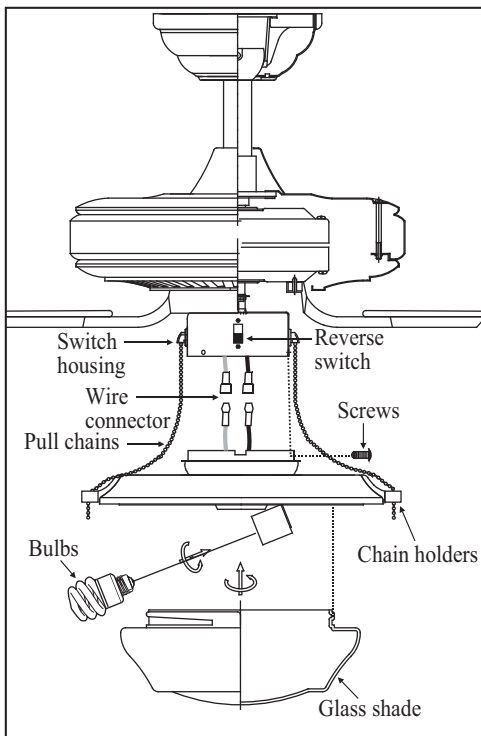

Figure 20
2. Carefully push all wires back into the switch housing. Attach the light kit fitter by aligning its keyhole slots with the three screws holes and reversing switch on the side of switch housing. Tighten the three screws securely to prevent the light kit from vibrating loose.(Fig. 20)
3. Pass the two pull chains on the switch housing through the chain holders located on the light fitter, install the fobs to the pull chains. (Fig. 20)
5. Raise glass shade up against the fan and secure it to fan by turning glass clockwise until snug. DO NOT OVERTIGHTEN. (Fig. 20)